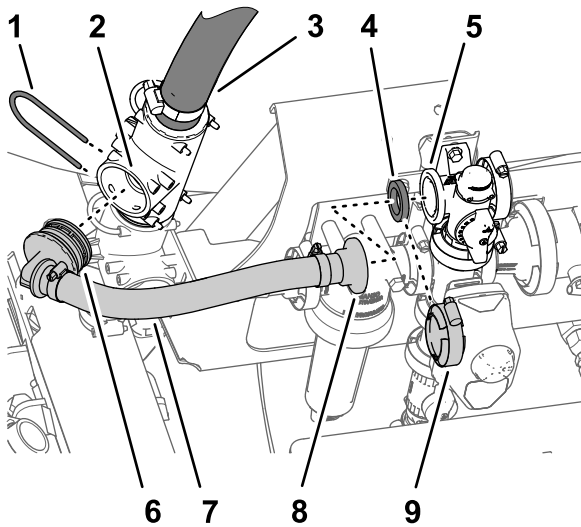

Figure 8
1. Align the 90° barbed fitting of the new agitation bypass-hose assembly with the open port in the upper T-fitting and insert the 90° fitting until it is seated in the T-fitting (**Figure 8**).
2. Secure the 90° barbed fitting to the T-fitting with the retainer (**Figure 8**) that you removed in step 2 of Removing the Hoses \(page 4\).
3. Align the straight flange fitting of the new agitation bypass-hose assembly and the gasket with the flange of the bypass valve (**Figure 8**).
4. Secure the straight flange fitting and gasket to the bypass valve with the flange clamp (**Figure 8**) that you removed in step 2 of Removing the Hoses \(page 4\).